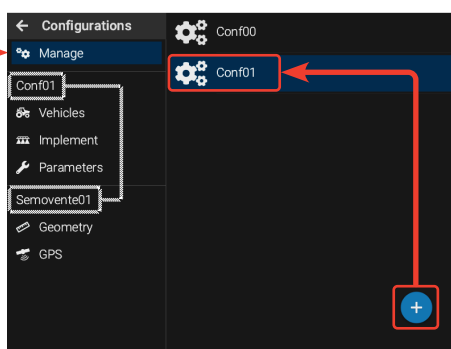

Fig. 20
- Press **+** (Fig. 20) and edit the new configuration name (par. 3.1).
Each configuration must always pair a vehicle, both visible in the **Configurations** column on the left side of the display (Fig. 20).